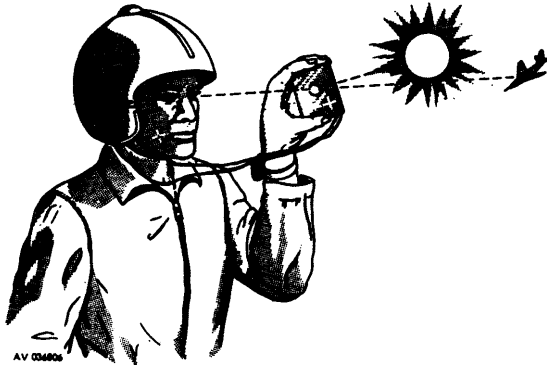

Figure 2-3. Using the Signal Mirror
c. Hold the mirror close to the eye and slowly turn it until the bright spot is on the target (Figure 2-3).